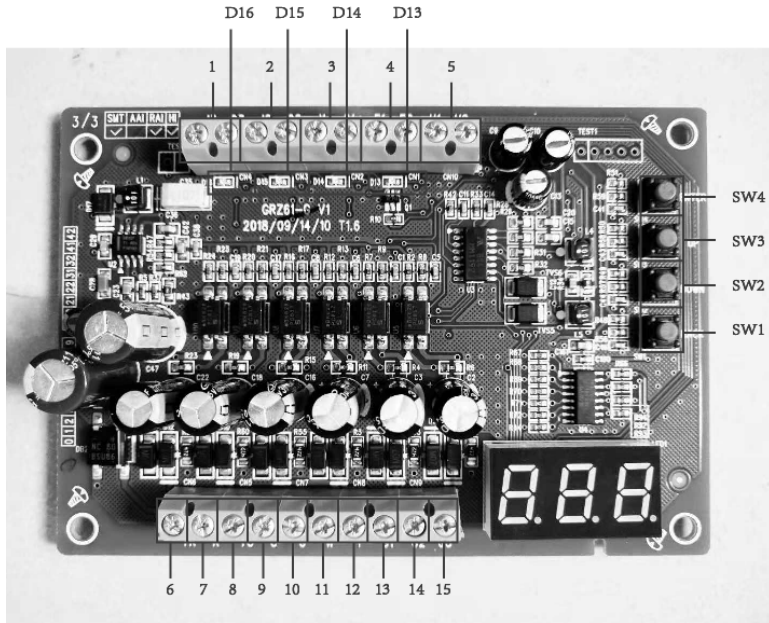

Fig.4.1 Schematic diagram of interface's function
Schematic diagram of interface of main board and interface function instruction are shown in fig.4.1 and table 4.1 as below:
Function instruction for buttons in fig.4.1 is as below:
(1) Status instruction of LED indicator in fig.4.1 is as below: